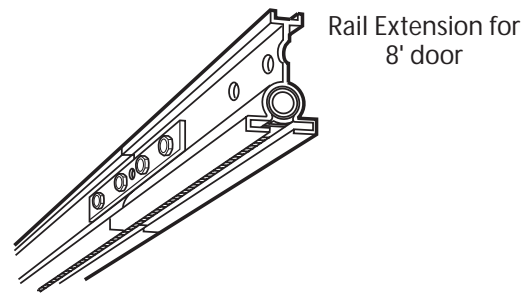

Figure 3 Rail Extension Kit
- B If door height is 8'-0", you need a Rail Extension Kit. (Figure 3) (See Accessories Order Form, page 21).